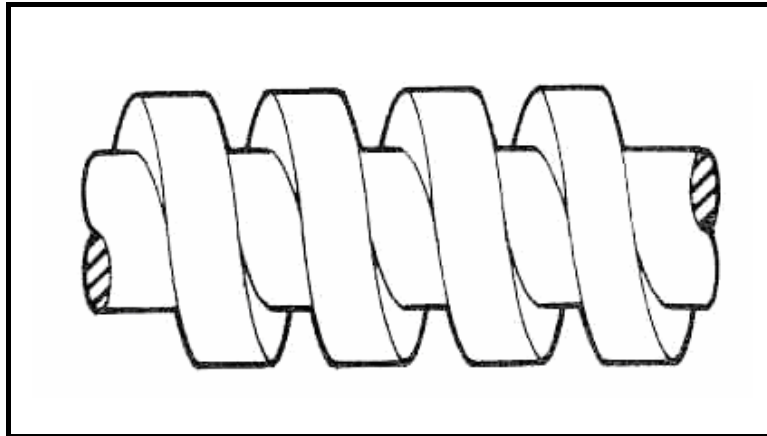

FIGURE 1.7
1.17 Identify the type of thread shown in FIGURE 1.7.